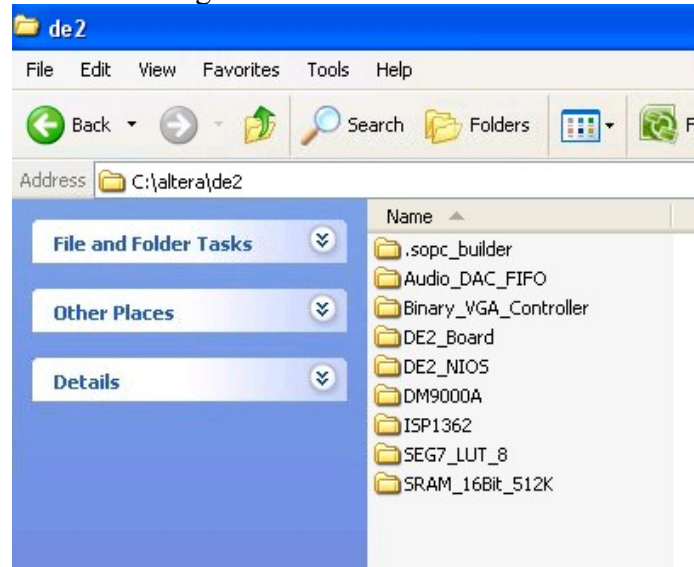

Figure 1-1: The structure of c:\altera\de2
2. Extract them to c:\altera, you should be able to see a directory called de2 is created. The structure of the c:\altera\de2 should look like Figure 1-1.